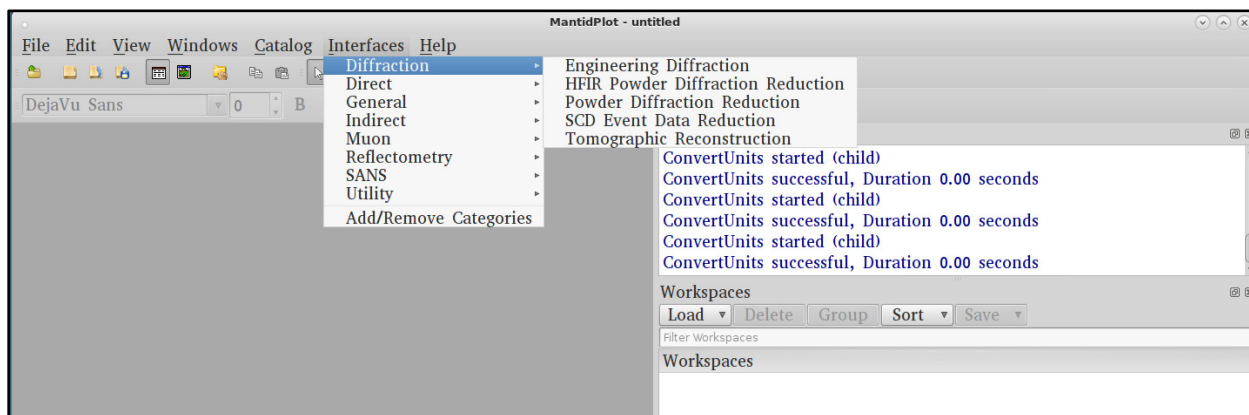
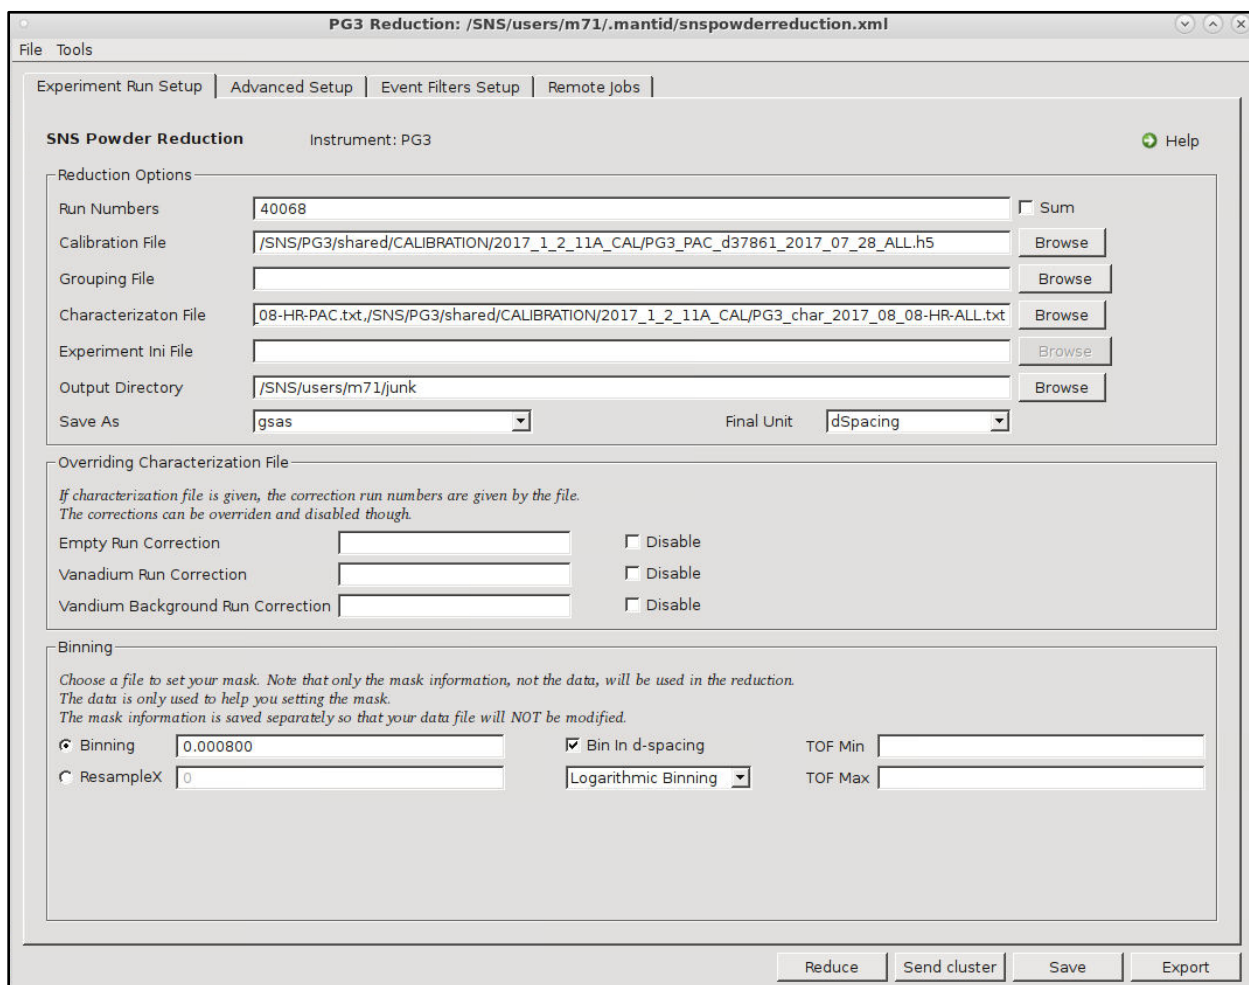
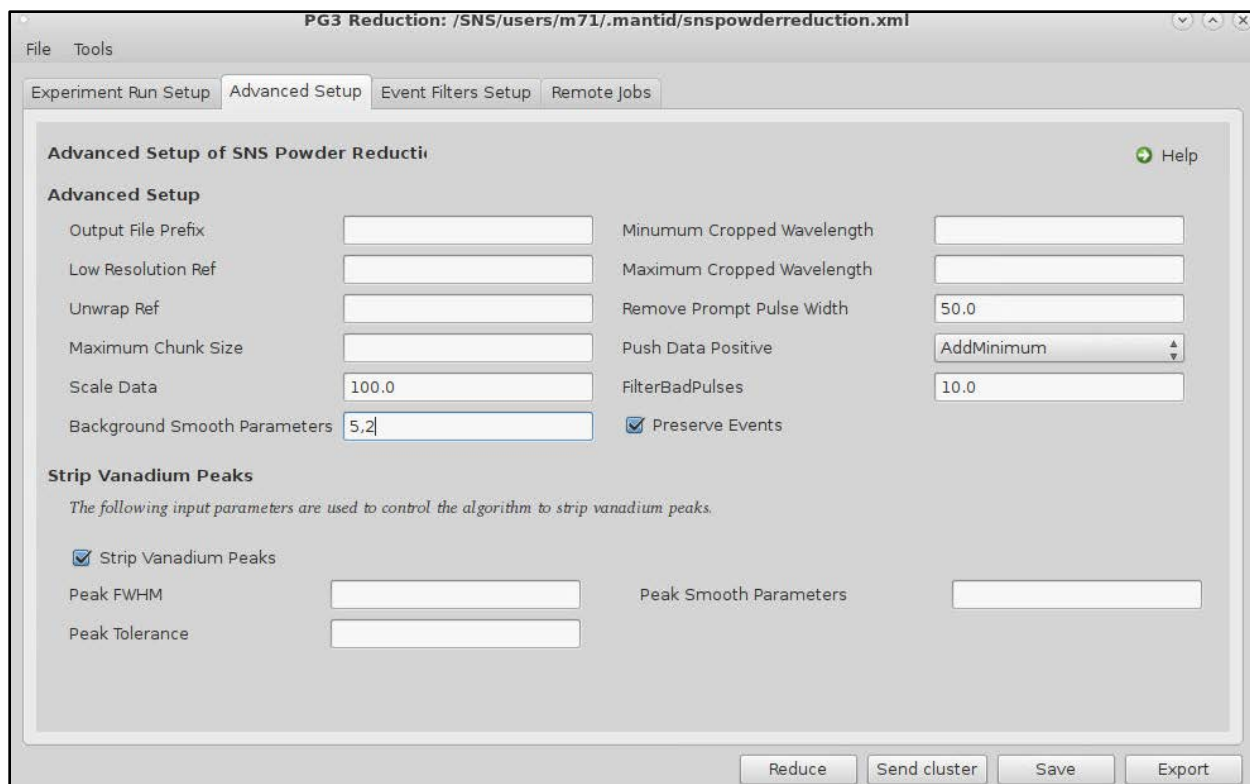

Figure 1. Opening the Powder Diffraction Reduction window.
Figure 2. Main tab of the Powder Diffraction Reduction window.
Figure 3. Advanced Setup tab of the Powder Diffraction Reduction window.
**Reducing data with custom settings:** Data are automatically reduced into gsas, fullprof and topas formats. If you want to rebin the data (different from what autoreduce creates) or do some special subtraction of background, you can re-reduce the data yourself using MantidPlot. In the main menu pick Interfaces→ Diffraction→ Powder Diffraction Reduction (Figure 1). This will launch the PG3 Reduction window (Figure 2). For a standard data reduction, enter the parameters on the Experiment Run Setup (Figure 2) and Advanced Setup (Figure 3) tabs, as indicated below.
### SNS Powder Reduction → Experiment Run Setup tab (Figure 2):
## SNS Powder Reduction → Advanced Setup tab (Figure 3):